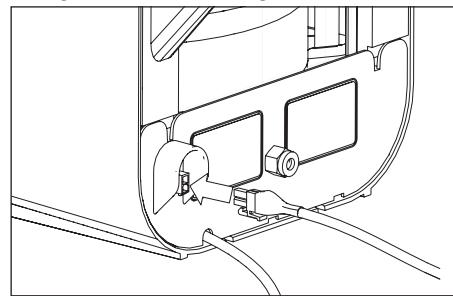

Fig. 8.4 Connecting the wire on to the connector of the water heater
- 8. Connect the wire from the HotSpot Titanium boiling water tap to the connector at the back of the water heater (hook pointing downwards; see Fig. 8.4).